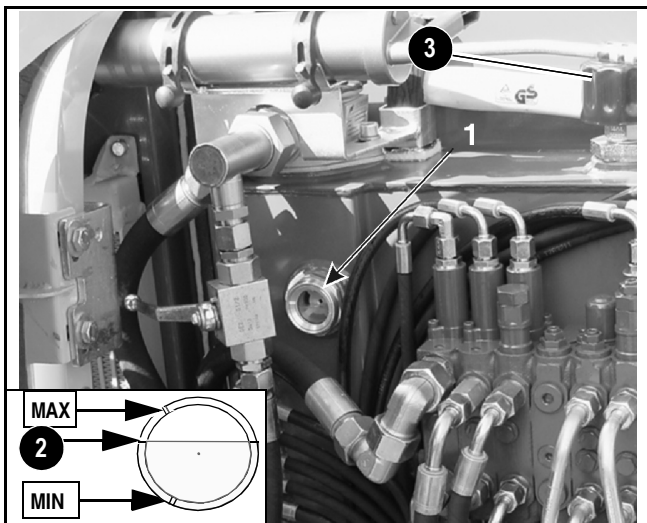

Figure 4-15 Hydraulic Reservoir
4. Check the hydraulic oil level sight gauge. Oil level should be visible in the sight gauge (1, Figure 4-15). If hydraulic oil is required, proceed to step 5.
3. Slowly open the filler cap (3, Figure 4-15) to relieve pressure. Remove cap (3) and clean strainer of any debris.